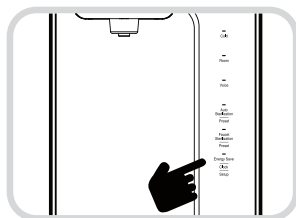

Fig. 11
1. Press the Energy Save/Clock (Setup) button for three (3) seconds in the Waiting Status to put the unit in the User Setting mode.
2. After the unit is in the User Setting mode, press the Energy Save/Clock (Setup) button again. (Fig. 11).